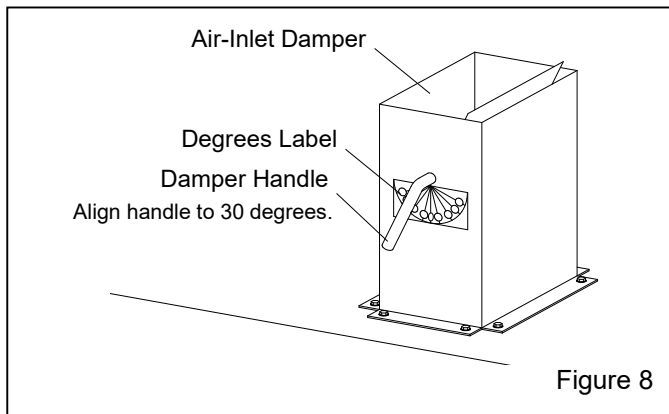

Figure 8
2.9 Set Air-Inlet Damper – Figure 8